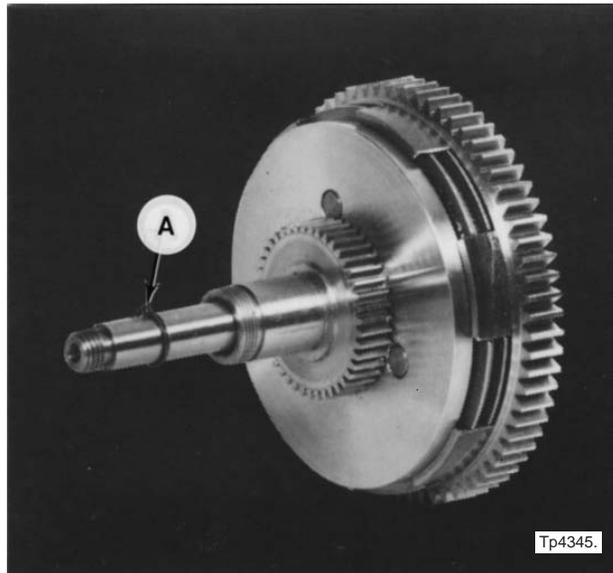

Figure 1.18 - Cross Feed Clutch
- a) Remove snap ring "A", Figure 1.18 .
- d) Replace snap ring “A”, Figure 1.18 .